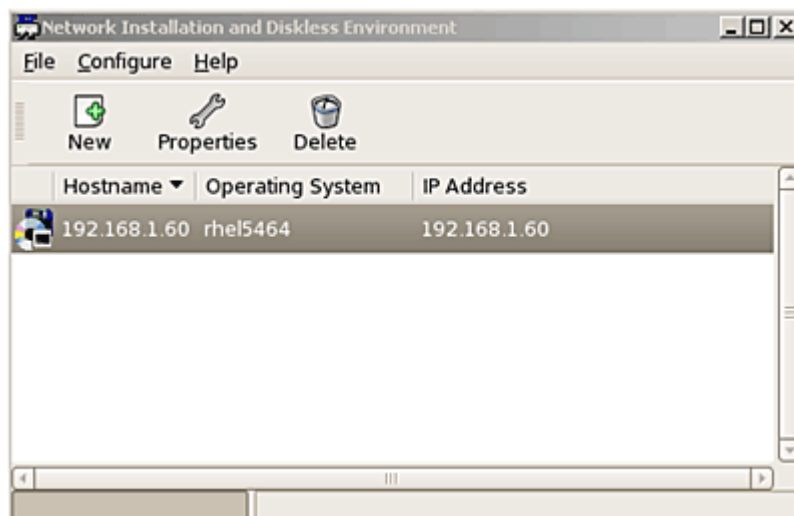

Figure B-4 Network Installation and Diskless Environment Window with IP Address
1. Double-click on the IP address row in the Network Installation and Diskless Environment window (Figure B-4). An edit dialog box is displayed.
8. Go to `/tftpboot/pxelinux.cfg` and open the file `C0A8013C`. The `C0A8013C` file is created when you assign the client IP using “system-config- netboot”. This is the hexadecimal address of the IP assigned to the client NIC. It is 192.168.1.60 in the example in Figure B-4.